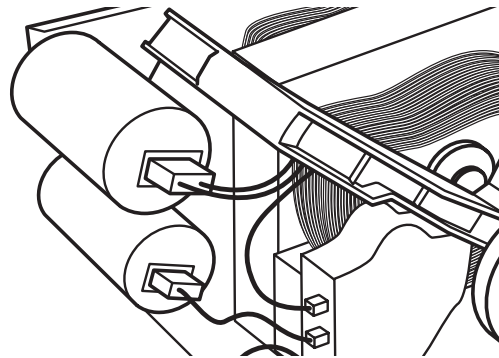

Figure 9c - Motor capacitors.
12. If the motor has two capacitors attached as shown in figure 9c, perform the following. Otherwise, skip to step 13. Remove and check motor capacitors: each capacitor can be removed by disconnecting the capacitor connector and removing the nut on the capacitor end (see figure 9c). The capacitor connectors are keyed to facilitate correct connection, and are black on black for the